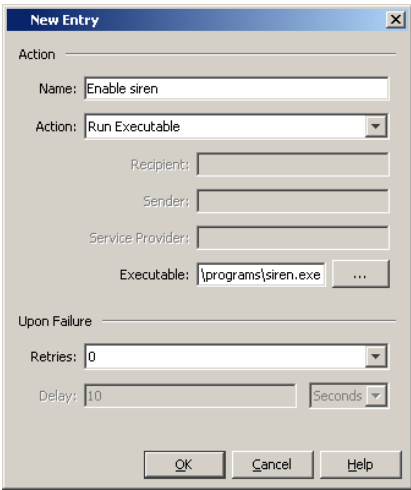

Figure 67: Configuration:Preferences:Basics:Event actions:Actions, Example for using the action “Execute program” for the user program “siren.exe”
- ▶ Execute a program (see note in „Installation under Windows“). In the figure below (see fig. 67) you will find the user program “siren.exe” as an example.